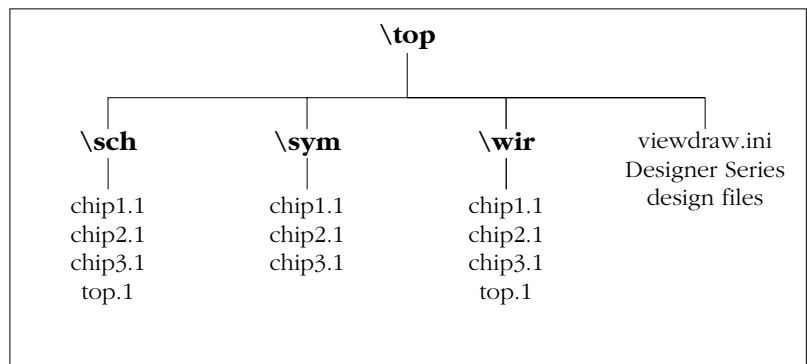

Figure 4-1. Directory Structure for Multichip Simulation
- 1. Create a top-level schematic and instantiate the individual chip designs.** This example assumes there are three designs with instance names “chip1,” “chip2,” and “chip3.” The name of the top-level schematic is “top.” Figure 4-1 depicts the directory structure for this example. Names written in normal text represent file names and those in bold text represent directory names.